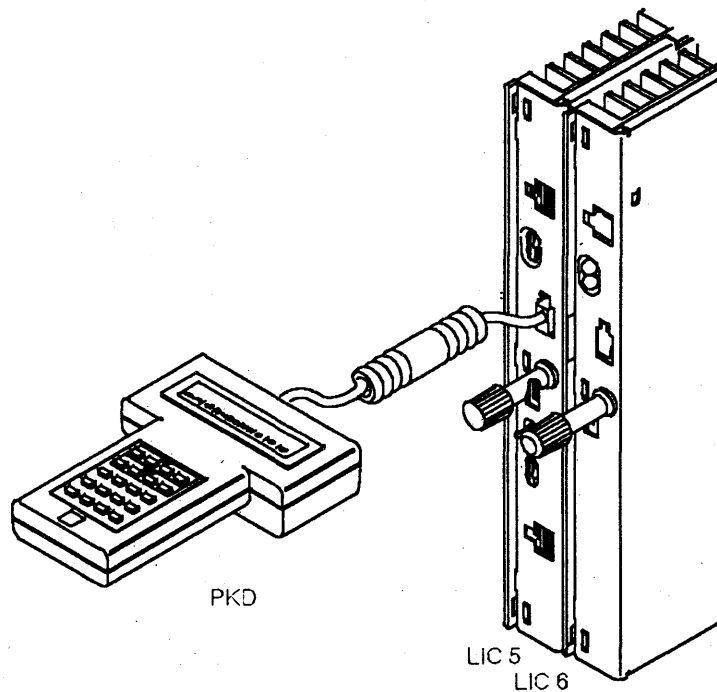

Figure 9-3. IBM 5869 Portable Keypad Display (PKD) plugged to a LIC5 or a LIC6.
- To check the lights, plug in the PKD (refer to Figure 9-3 on page 9-38 for connection); press the **Go** or **Stop** key; then the green and yellow lights should be on.